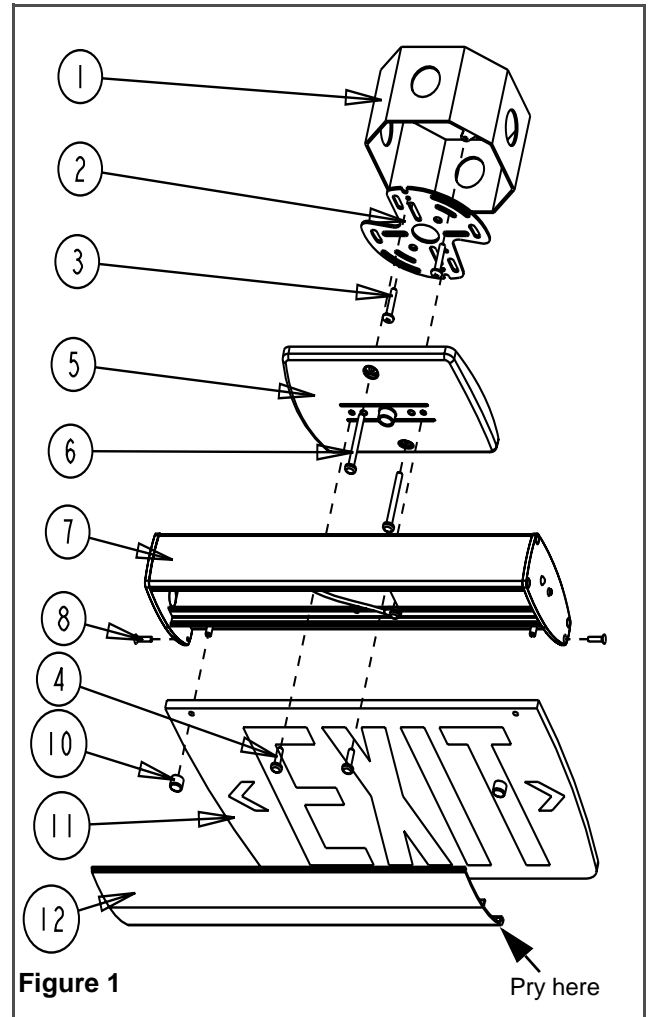

Figure 1
4. Unsnap cover (12) by using your fingers, lift the bottom of the cover and remove (if the cover is too difficult to open gently pry the cover using a flathead screw-driver at the point indicated in fig.1).
Wall Mount (See Figure 1)